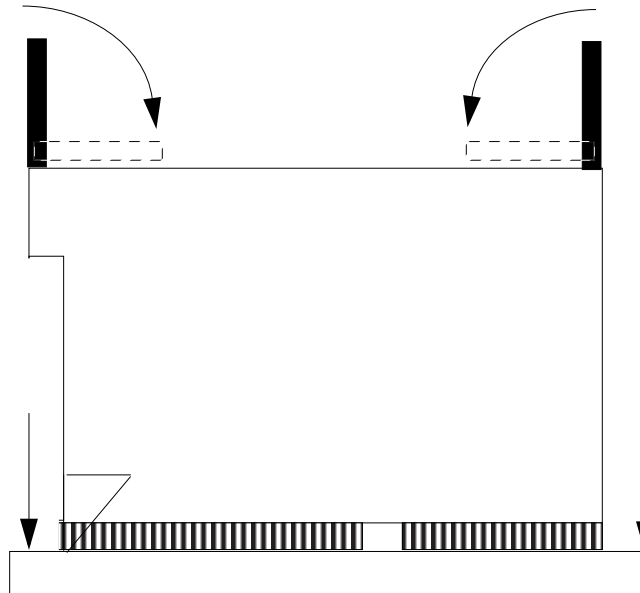

Figure 5-3 Locking the Module in Place
7. With both hands, simultaneously turn and press the levers downward to the fully horizontal position. Firmly press the module downward into the socket until it is fully seated and the levers are fully locked (Figure 5-3).